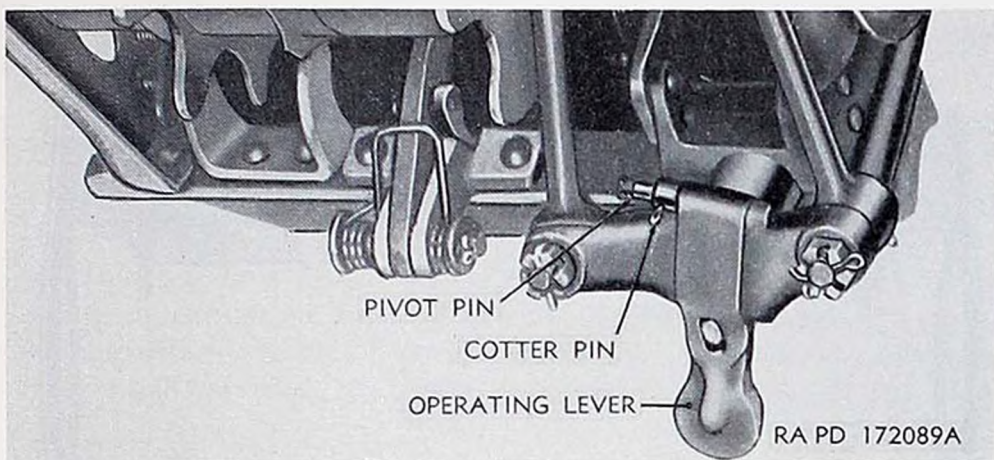

Figure 139. Removing operating lever from feed mechanism AN-M2.
c. Remove cotter pin and pivot pin and withdraw operating lever (fig. 139).